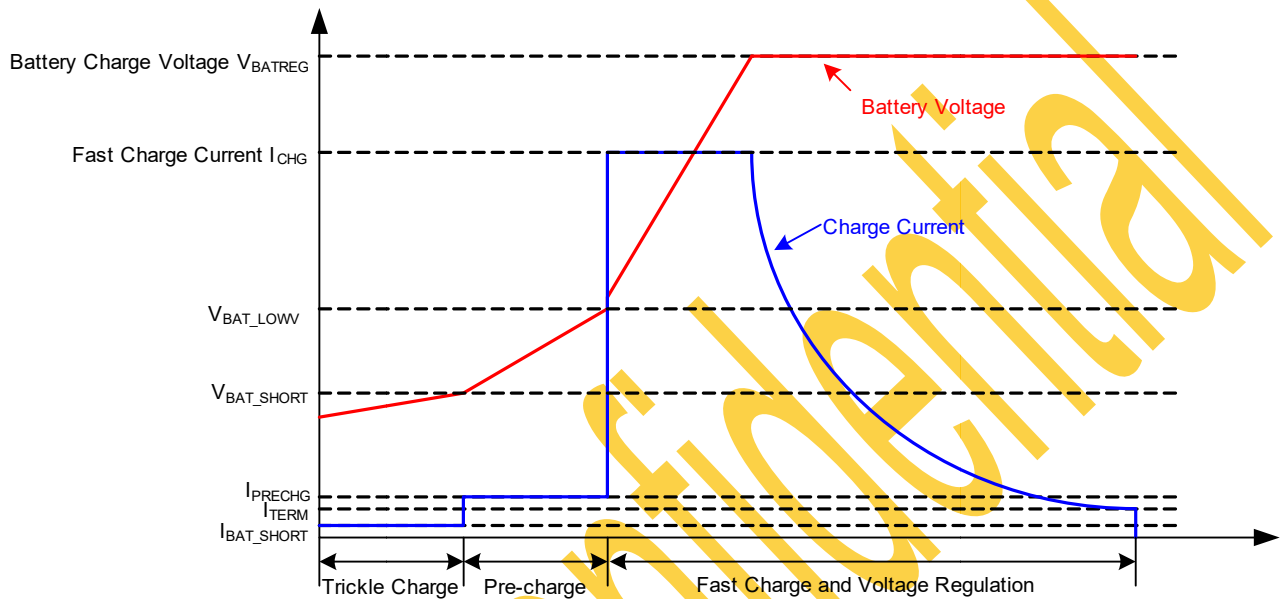

Figure 9. Battery Charge Profile
In Charge Mode as shown in the table of Device Functional Mode, the devices charge the battery in four sub-charge-modes: trickle charge, pre-charge, Constant Current (CC) charge and Constant Voltage (CV) charge as shown in Figure 9. If the battery voltage falls below $V_{BAT_SHORT_FALL}$, the battery charge battery with trickle charge current I_{BAT_SHORT} , when the battery voltage rises above $V_{BAT_SHORT_RISE}$ and below $V_{BAT_LOWV_RISE}$, the charger charges battery in precharge mode with charge current at I_{PRECHG} . Fast charge starts once battery voltage rises above $V_{BAT_LOWV_RISE}$. When battery voltage is close to battery charge voltage V_{BATREG} , the charger goes into CV mode and charge current starts to decrease. When charge current decreases below termination current I_{TERM} , charge is terminated and charge cycle ends. Following charge termination, if the battery voltage follows below $(V_{BATREG} - V_{RECHG_HYS})$, a new charge cycle restarts.